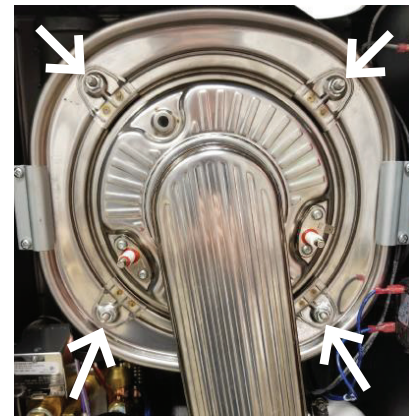

Figure 3
6. Remove the (4) 10mm nuts that attach the cold burner door to the heat exchanger (Figure 3).